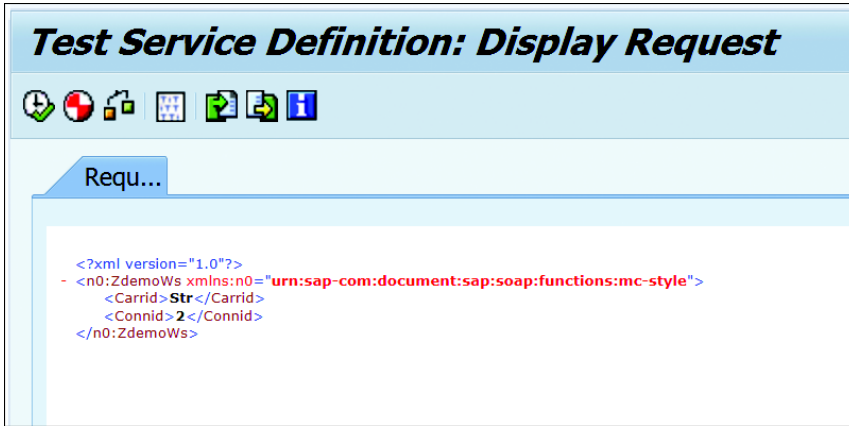

Figure 19.88 Test Web Service Definition
11. You can execute the web service definition in Object Navigator to test the web service (see Figure 19.88).